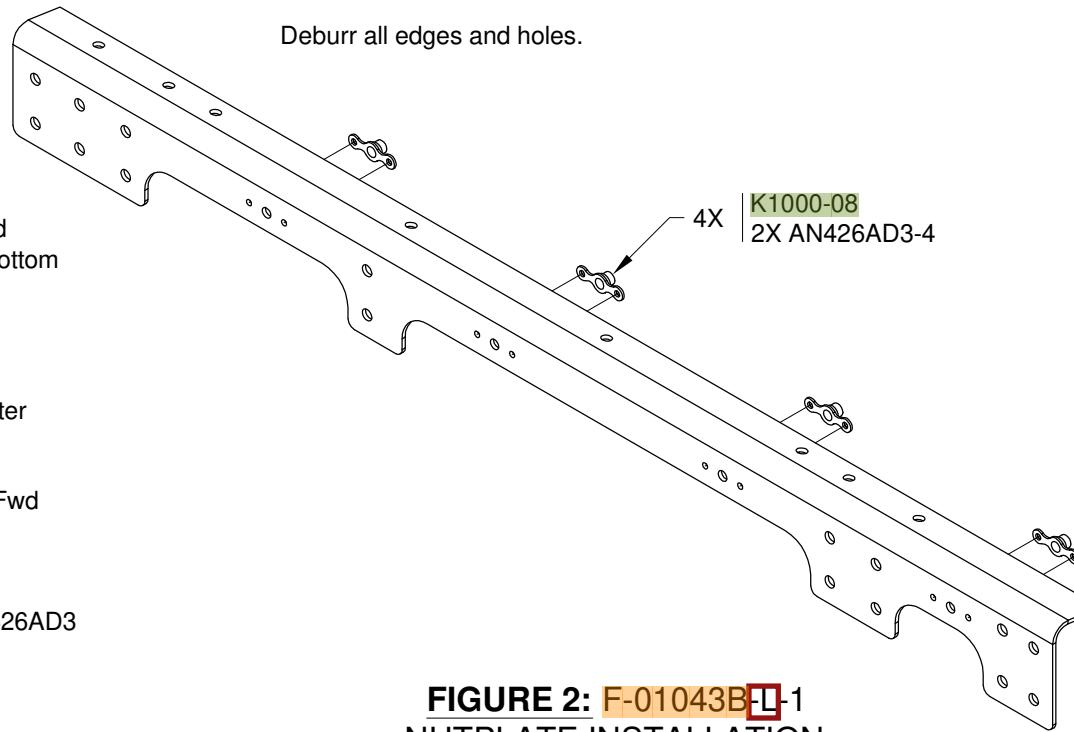

FIGURE 2: F-1043B-L-1 NUTPLATE INSTALLATION
Machine countersink the nutplate attach holes in the web of the fwd fuselage bulkheads to fit the head of an AN426AD3 rivet. See Figure 2.
Step 8: Remove the F-1049A-L & R, F-1049B-L & -R, F-1049C-L-1 & -R-1, and F-1049D-L & R Fwd Fuselage Floor Ribs. See Page 28-5, Figure 2.
Dimple all of the #30 holes in all of the F-1049 Fwd Fuselage Floor Ribs EXCEPT the holes in the forward and aft tabs and the most forward hole in the upper flange. See Page 28-5, Figure 2.